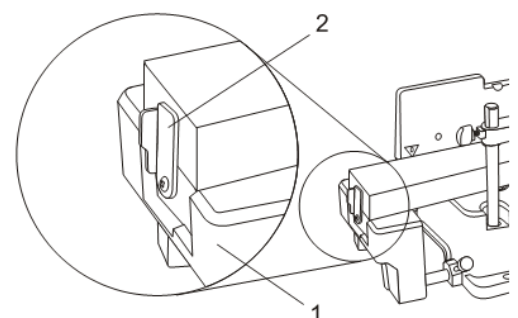

Fig. 27
The base extensions (1) have built-in stops for use when making repetitive cuts of the same length (Fig. 27). To use the stop, simply rotate the stop (2) 90° so it provides a positive stop for the workpiece.